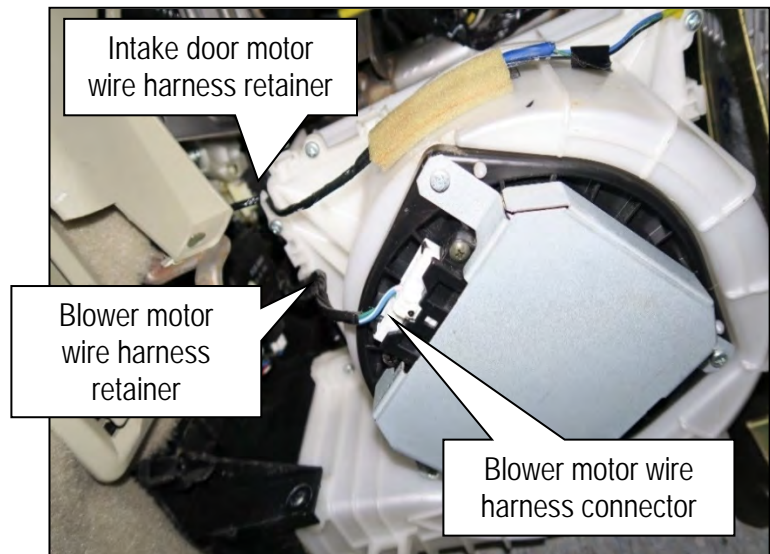

Figure 12
15. Disconnect the blower motor wire harness connector and disengage the blower motor wire harness from the retainer (Figure 12).